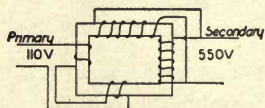

FIGURE 217.—110 VOLTS TRANSFORMED TO 550 VOLTS.
3. If the primaries are connected in series and the secondaries in parallel, the voltage will be $\frac{1}{2} \times 110 = 550$. (Figure 217.)